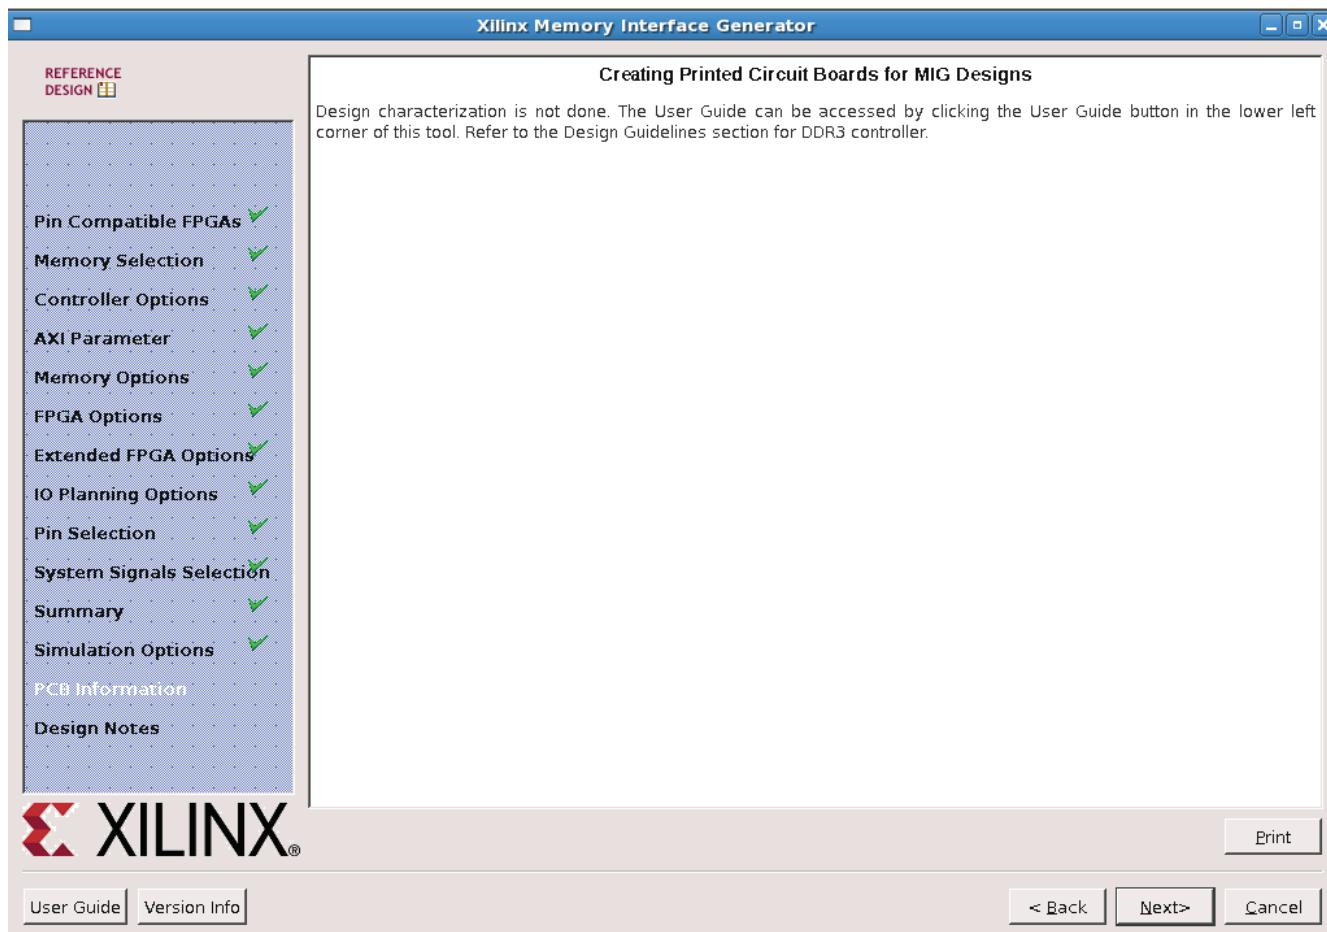

Figure 43: MIG PCB Information
31. This window mentions that important PCB information is contained in the User Guide accessible by clicking the button in the lower-left corner. Click **Next** to continue (Figure 43).